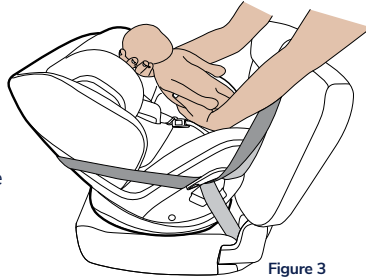

Figure 3
Step 1. Place child in the restraint (Figure 3).